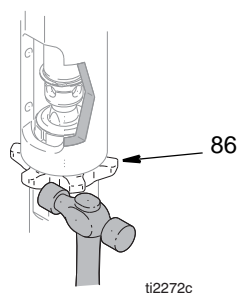

FIG. 9
5. (Fig. 9). Lossa låsmuttern (86). Skruva loss pumpen (111).